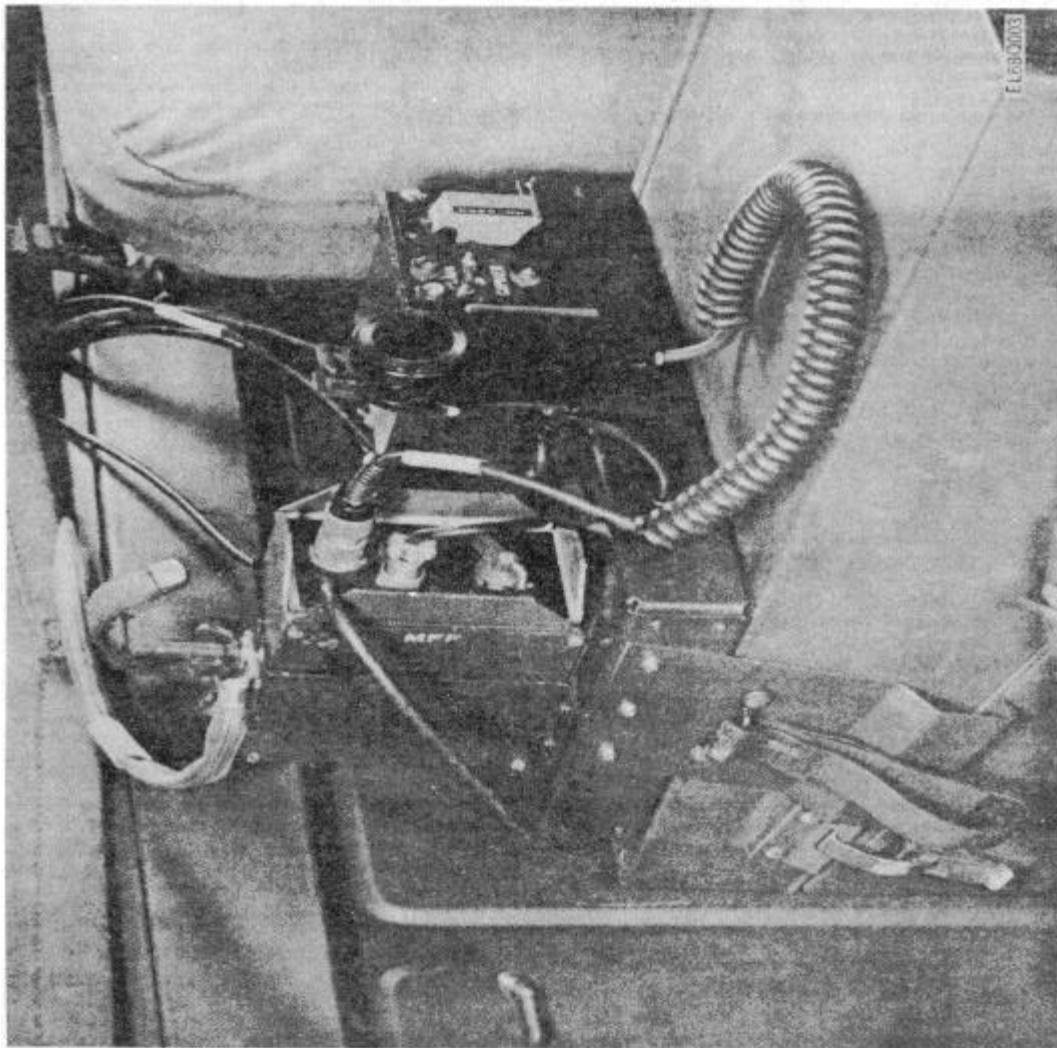

Figure 2-20.1. Truck adapter kit installed, M715 vehicle.
h. Inside cab, loosen canvas straps and route truck adapter kit battery power cable 4A1W3 between canvas and cab rear wall; continue routing of power cable down between cab and body as far as it will go (fig. 2-20.1).
- m. Mount truck adapter bracket legs on battery box cover; replace cover on battery box and close battery box fasteners (fig. 2-20.1).